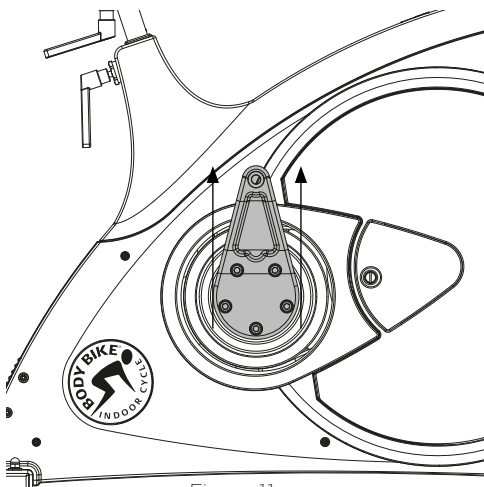

Figure 11
- 1) Place the right pedal arm with the socket pointing upwards, see figure 11.